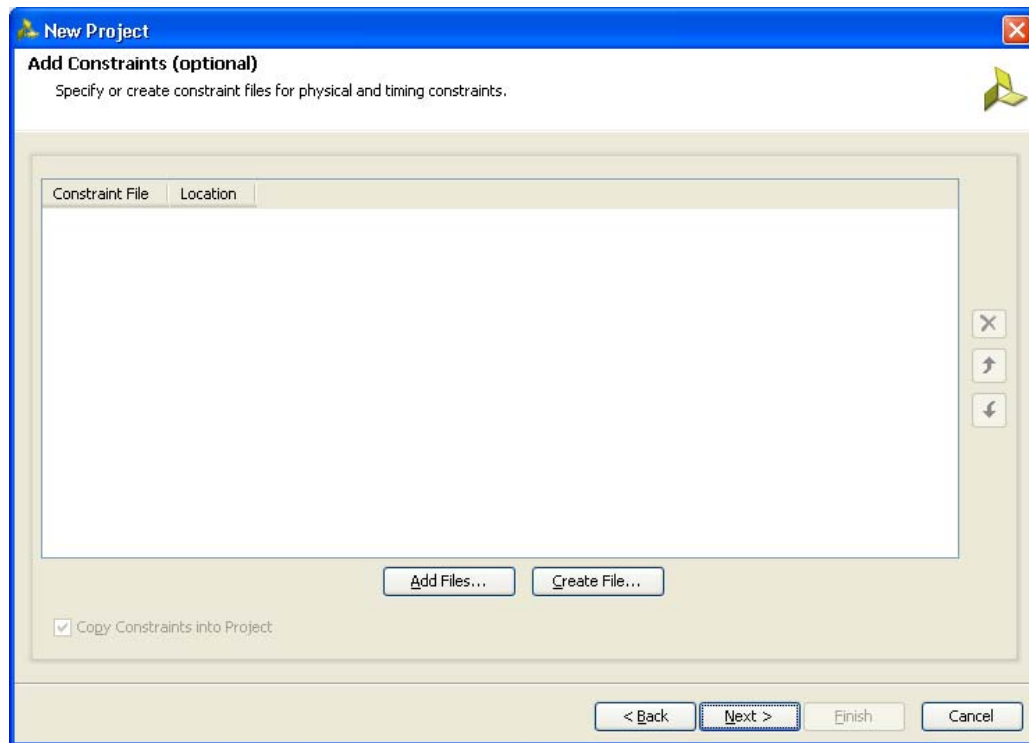

Figure 2-7: Add Constraints (Optional)
7. Click **Next** to open the **Add Constraints (Optional)** page (Figure 2-7). If the constraints file exists in the repository, it can be added to the project. Proceed to the next page if the constraints file does not exist.